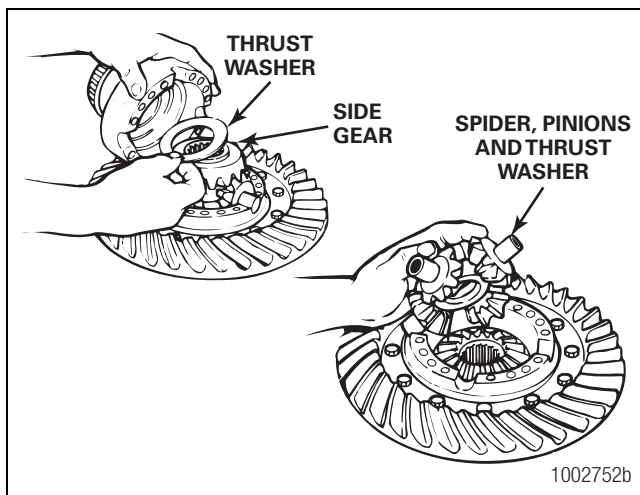

Figure 3.48
3. Remove the spider, pinions, thrust washers and side gears from the separated case assembly. Figure 3.48.